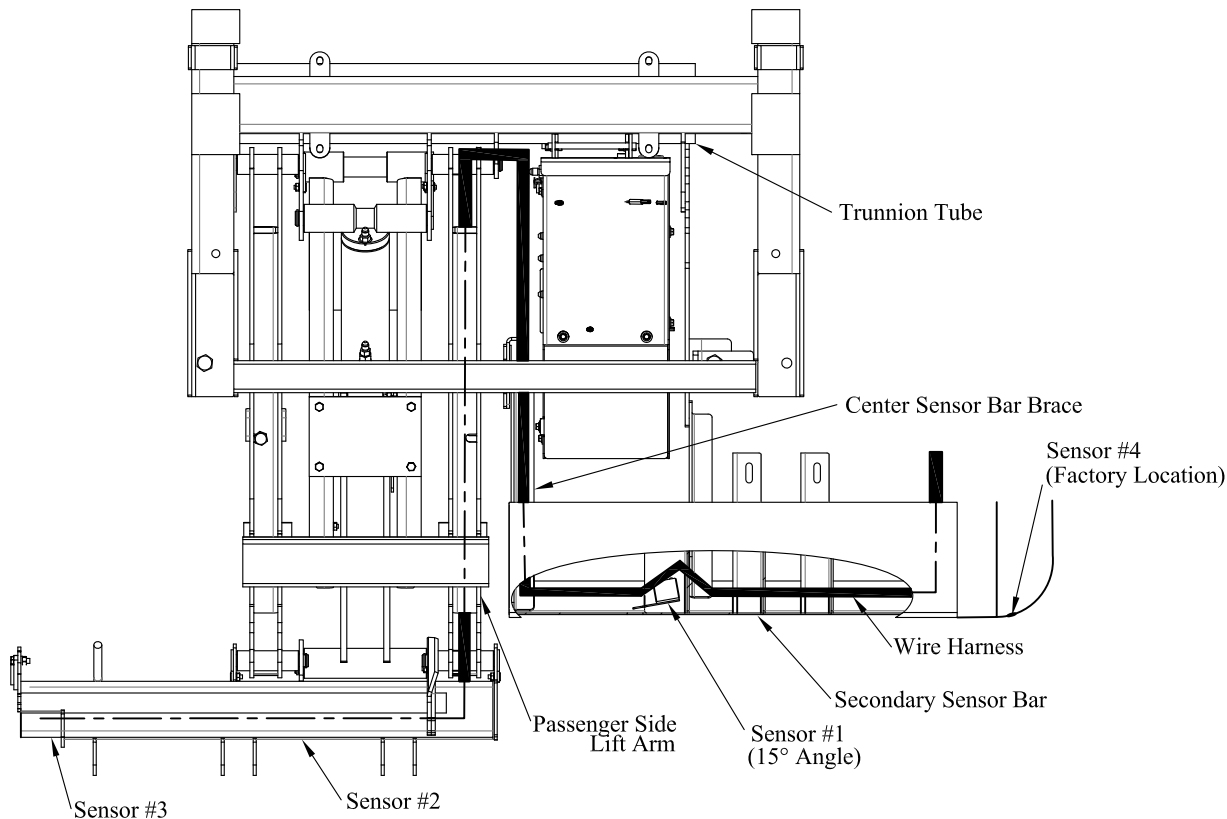

Figure 5: Wire Harness Routing.
3. **Route** new sensor wire harness along the center sensor bar brace (Figure 5).
4. **Route** new sensor wire harness over the top and down the inside of the passenger side lift arm, following limit switch wire harness (Figure 5).
5. **Route** new sensor wire harness into the back of the sensor bar (Figure 5).